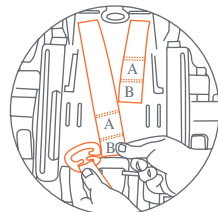

Fig. 28-1
5. Turn the seat over. Locate the Belt Adjuster Plate near the bottom of the seat (Fig. 28-1). Remove both Harness Straps from the Belt Adjuster Plate. From the front of the seat, pull the Harness Straps through the shoulder area slots and seat pad.